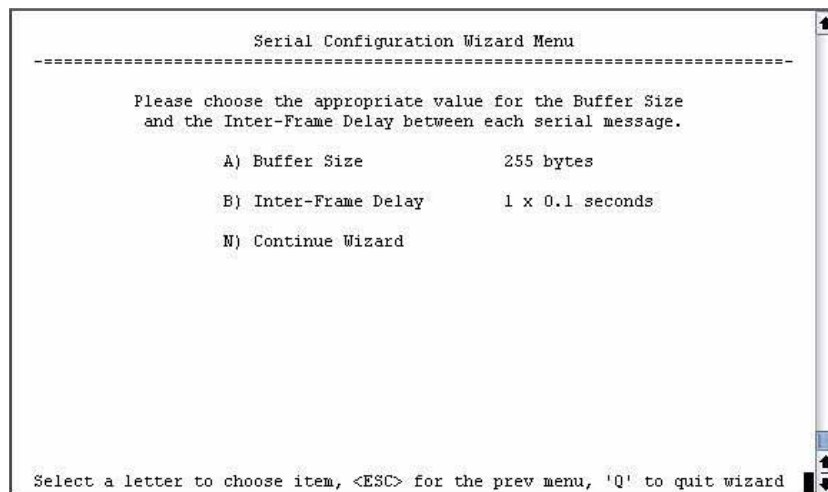

Figure 3-49. Buffer Size and Inter-Frame Delay Values
6. The screen shown in Figure 3-49 appears next. Press **A** to select the Buffer Size of message packets, and **B** to select the Inter-Frame Delay. Press **N** to continue with the wizard.